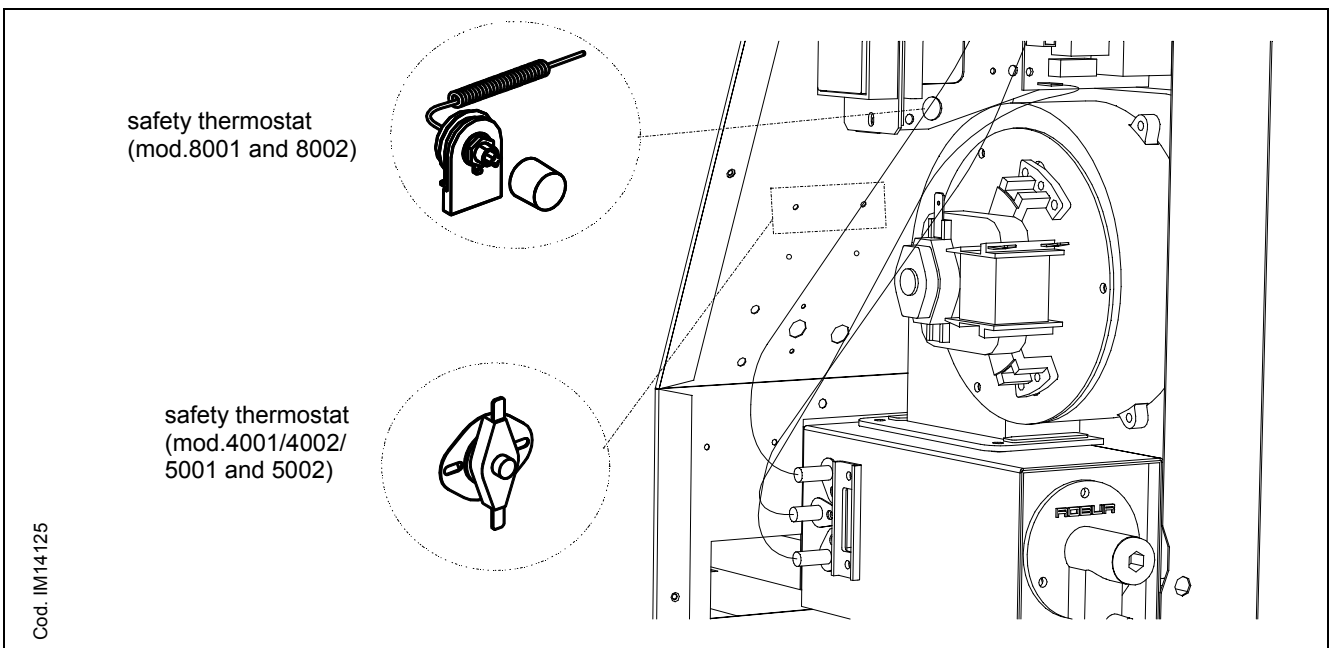
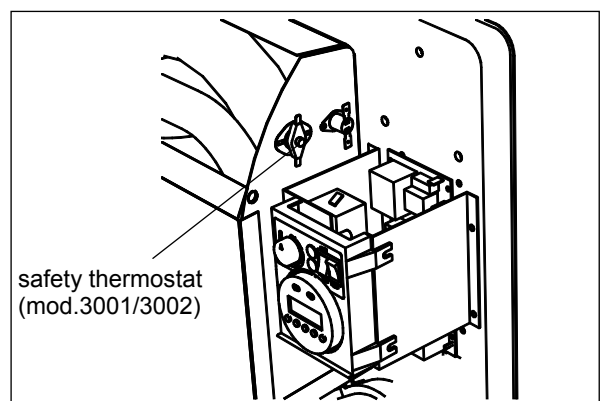

Figure 35 – LOCATION OF THE RESET KEY ON THE SAFETY THERMOSTAT (MODELS 4001, 4002, 5001, 5002, 8001 AND 8002)
Figure 36 – LOCATION OF RESET KEY ON SAFETY THERMOSTAT (MODELS 3001, 3002)
3. **Overheating:** if during the operation of the unit the fan stops working or in case the upper heated air outlet should obstruct, the safety thermostat will immediately cut off the electricity supply to the valve, cutting off the gas flow to the burner. To restore the working operations wait 10 minutes approx. to let the temperature drop. Clear electric supply, remove the shell and reset the unit pressing the reset key positioned on the safety thermostat inside the unit (see Figure 35 or Figure 36). Should a similar failure occur again in a short period of time, a service qualified engineer should be contacted.